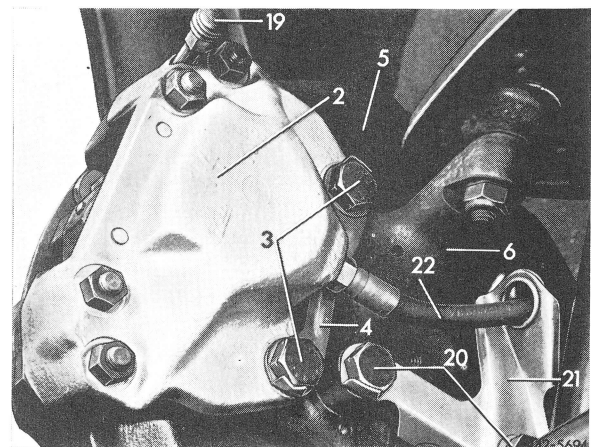

Fig. 2
- 3 Loosen brake hose (22) on caliper and remove from holder (21) (Fig. 2).
**4** Unbend locking plate (4) and unscrew fitted hex. bolt (3). Then remove caliper from steering knuckle (6) (Fig. 2 and 4).
**5** Attach caliper to steering knuckle (6) using a new lock plate (4) with fitted hex. bolts (3) (Fig. 2 and 4).
**6** Insert brake hose (22) through holder (21), making sure that the guide sleeve of the holder is not damaged. Then attach brake hose to caliper (Fig. 2).